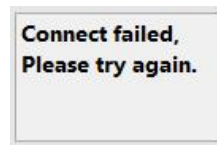

Fig.13 Connection error
2. If the connection fails as Fig.13, please check whether the COM port is correct and then refresh and re-connect it.